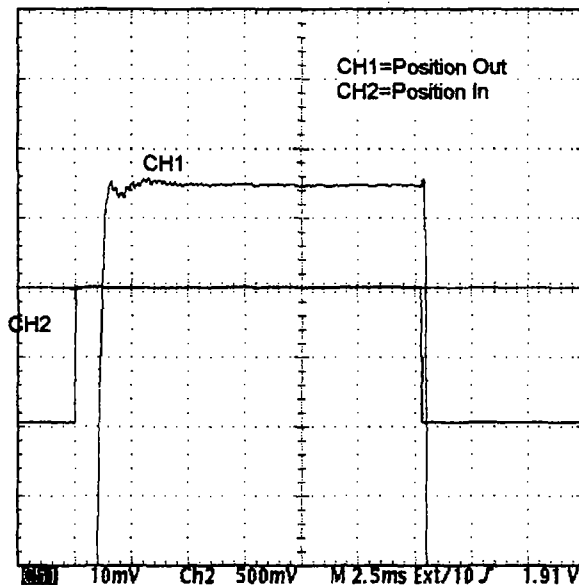

Figure 26
5. Turn R59 CW to minimize the amplitude of the undershoot as shown in Figure 26.